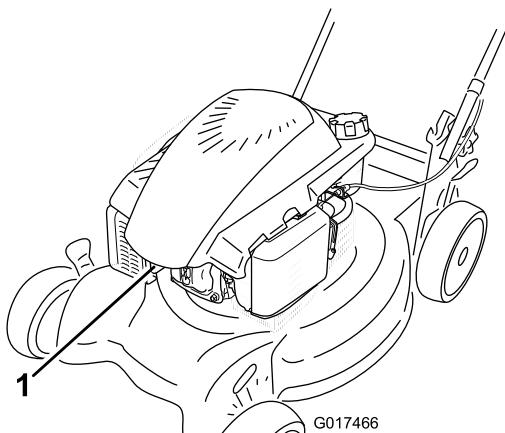

Figure 24
- Disconnect the spark plug wire from the spark plug (Figure 24) before performing any maintenance procedure.